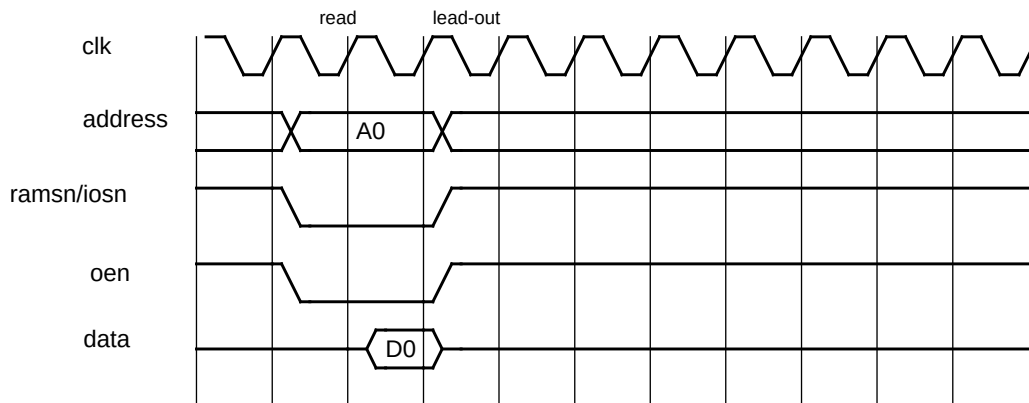
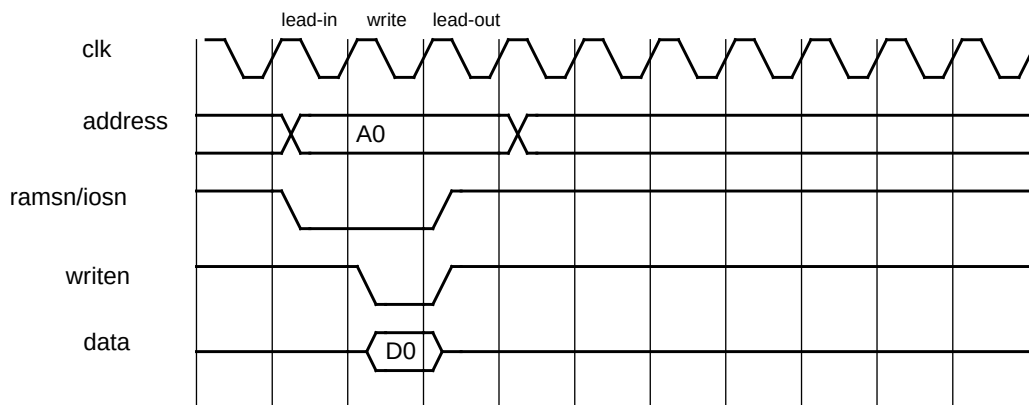

Figure 270. 32-bit PROM/I/O read cycle
Figure 271. 32-bit PROM/I/O write cycle
For the PROM and I/O operations, a number of waitstates can be inserted to increase the read and write cycle. The number of waitstates can be configured separately for the I/O and PROM address ranges, through a programmable register mapped into the APB address space. After a reset the waitstates for PROM area is set to its maximum (15). Figure 270 and figure 271 show timing diagrams for the PROM read and write accesses.
Read accesses to 32-bit PROM and I/O has the same timing, see figure 270
The write access for 32-bit PROM and I/O can be seen in figure 271